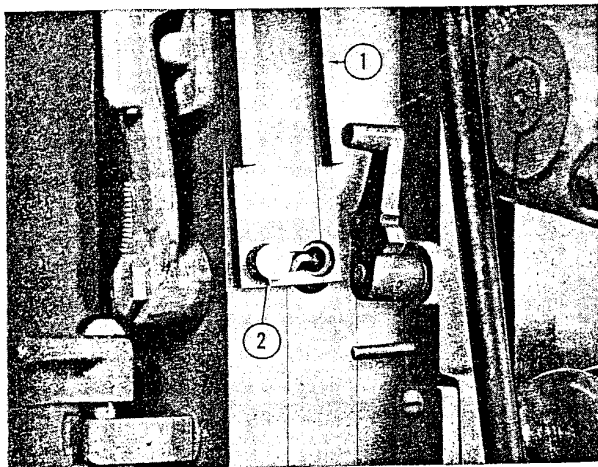

Figure 19—Side Guide Shifting Cam
The side guide shifting cam, (1) figure 19, mounted on the left side of the press frame and behind the left end cylinder guard, must be correctly positioned for left or right side register depending upon which is to be used.
should be positioned to the right. (See figure 19.) For right side register, position cam to the left.
(c) To change the position of the cam, loosen (do not remove) the cam stud, (2) figure 19, and shift the cam as required. Tighten stud after cam has been correctly positioned.